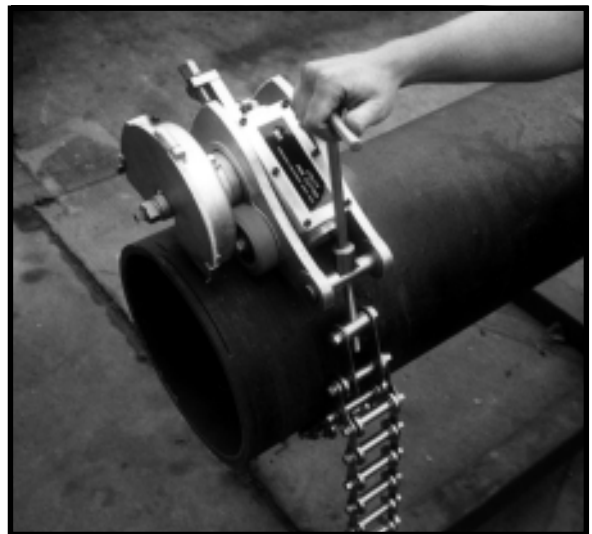

FIGURE 3
6. Tighten Fork Bolt until chain is snug. Proceed turning another 3/4" and remove wrench (Figure 3).